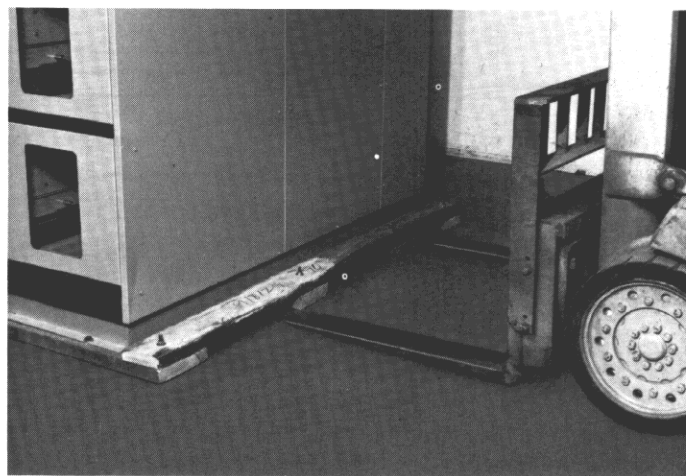

Fig. 2-6. Placing forklift tines under AKD-8 equipment shipping skid
2. Carefully insert tines of forklift below one side of the switchgear line-up at the approximate center of the panel as shown in Fig. 2-6.